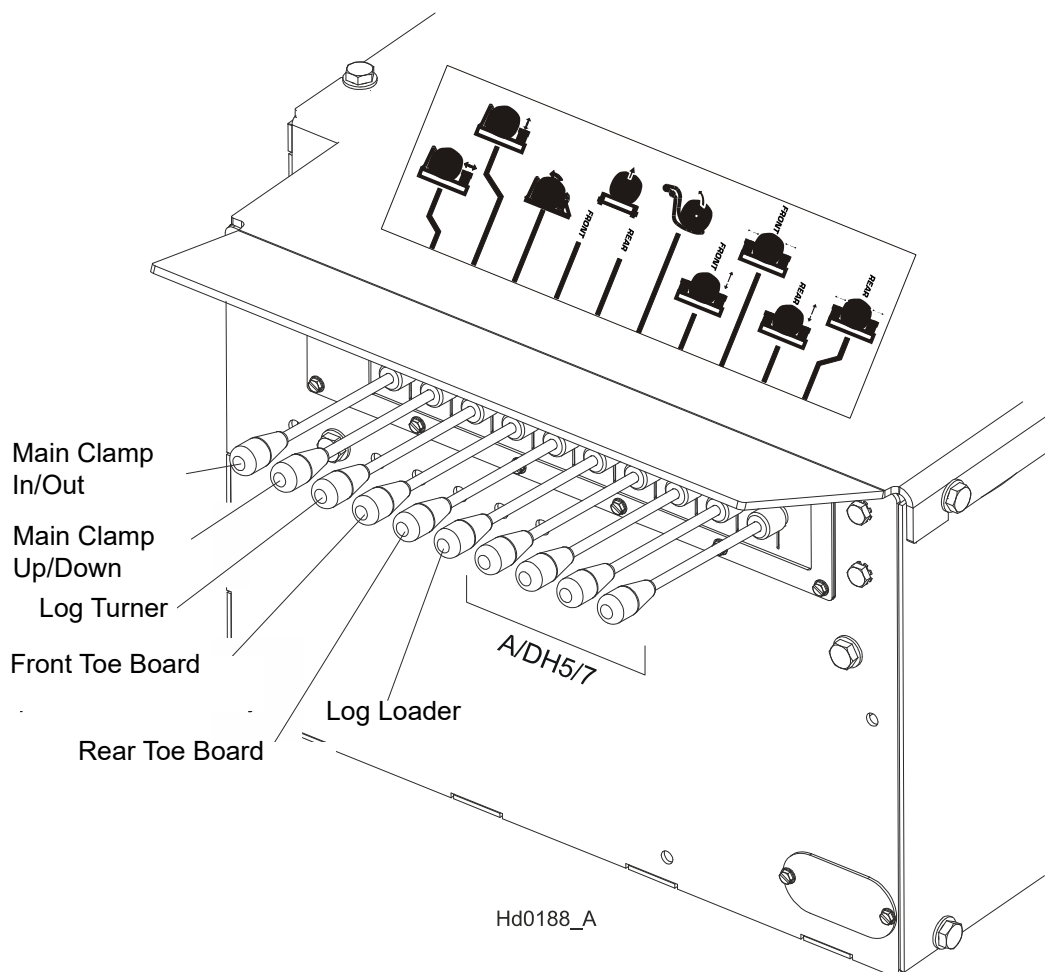

FIG. 2-8
**See Figure 2-8.** The sawmills with the A/DH3 hydraulic system are equipped with six hydraulic control levers for loading, clamping, turning and levelling logs. The A/DH5 and A/DH7 hydraulic systems are controlled with four additional control levers that allows positioning the Pull Down clamps. On the A/DH5 hydraulic system each clamp cylinder is controlled with a separate lever. On the A/DH7 hydraulic system in/out movement of all clamps is controlled with one lever, and up/down movement of each clamp is controlled with a separate lever.